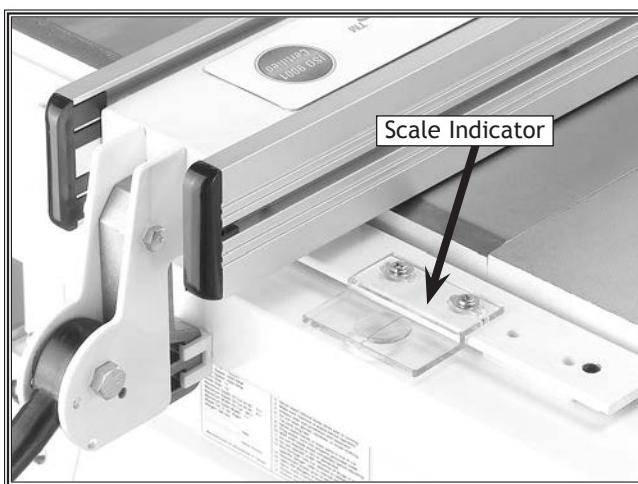

Figure 6. Scale indicator.
4. Install the clear scale indicator to the right of the fence with the #10-24 x $\frac{3}{8}$ " Phillips head screws and #10 washers (**Figure 6**).